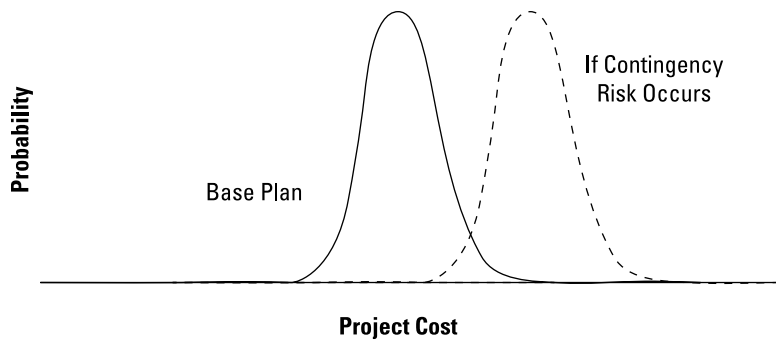

FIGURE 21-9:
- » **Contingency risk:** Some risks look like Figure 21-9. Here, if a contingency risk occurs, the base cost variance shifts to the right. Sources of contingency risk are things that are predominantly either/or in nature. For example, you either get a building permit, or you don't. The new battery technology either works, or it doesn't. Oftentimes, it makes sense to not mitigate a contingency risk upfront, but put in place a contingency plan, should the contingency risk actually occur. One rather drastic contingency plan that sometimes makes sense is simply to terminate the project if the risk occurs.